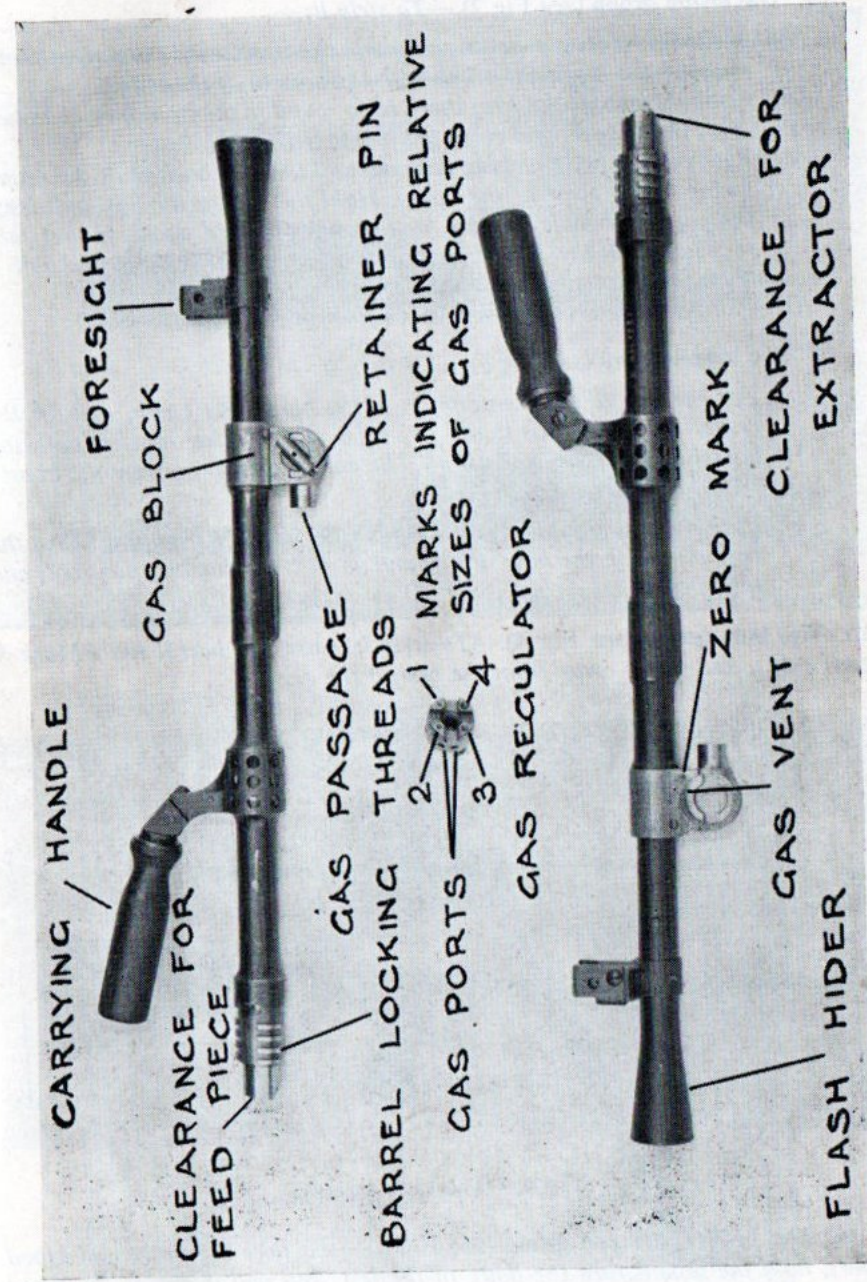

Fig 3.—The barrel group
14. The barrel group (see Fig 3).—To strip it:—